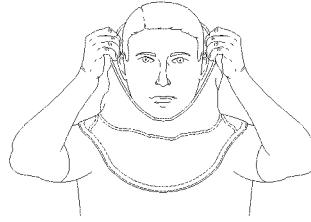

Figure 077-3-14. Pulling Hood Face Opening Over Head
1. Don firefighting ensemble or general quarters (GQ) anti-flash hood depending on mission.
- (a) Place hood over head and pull face opening over head and chin so face opening in hood is around neck (Figure 077-3-14).